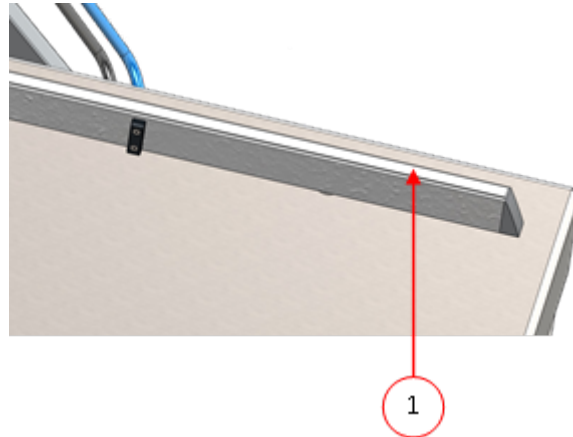

Figure 16: Replacing the Silicone Rubber of the Silicone Holders
1. Pull the old silicone rubber from the holder, see *Figure 16: Replacing the Silicone Rubber of the Silicone Holders* on page 57.